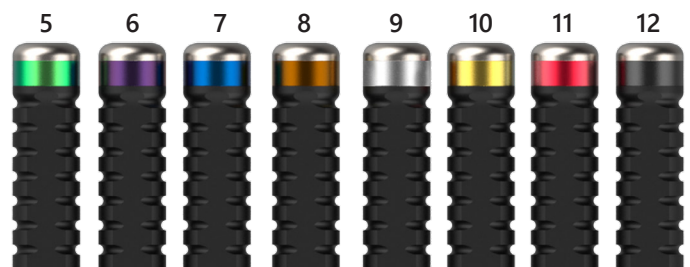

Figure 5b
- The Trials are color coded according to the height of the Cage (Figure 5b).